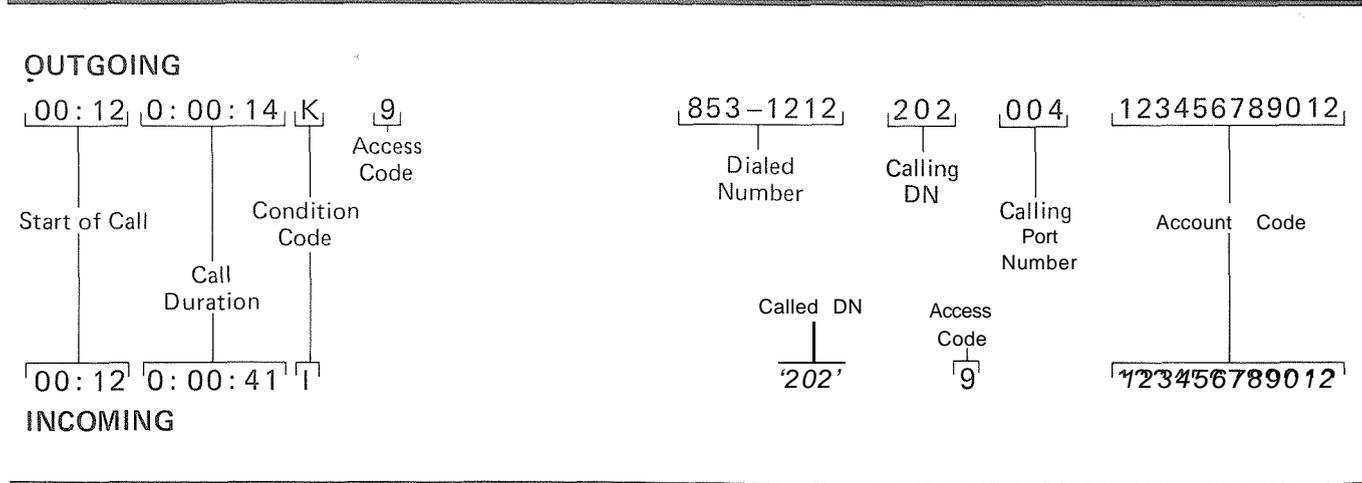

FIGURE 43—EXAMPLE: SMDR CALL RECORD
12.62 Each time a trunk is seized, information is collected for that trunk until it is released. The call record is output at the SMDR port in the following format (see Figure 43).